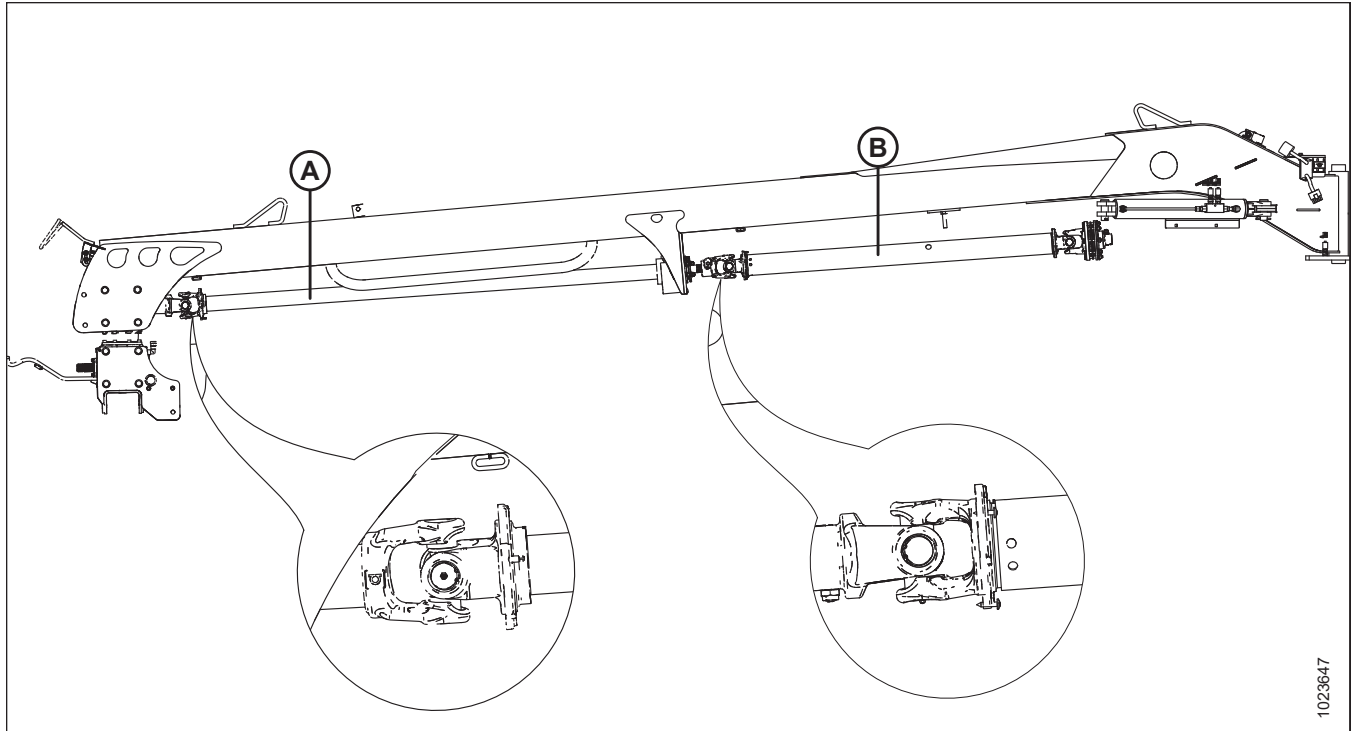

Figure 4.206: R113 Rotary Disc Pull-Type Pull-Type Driveline Phasing
On the R113 rotary disc pull-type (refer to Figure 4.206, page 225), the U-joint on clutch driveline (B) must be aligned 90° to the U-joint on front driveline (A).